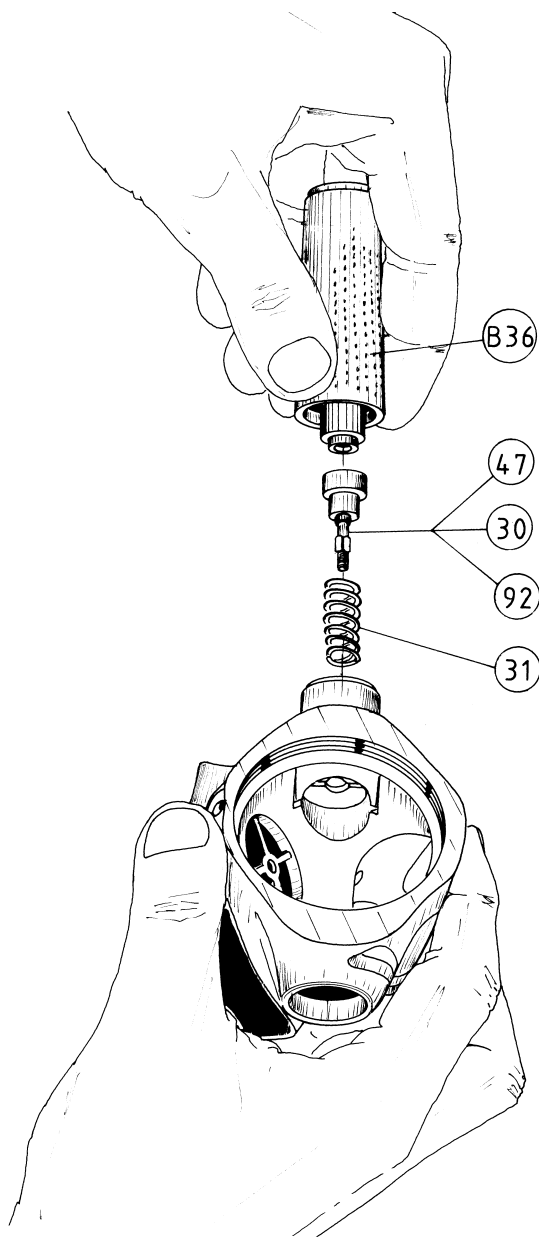

FIG. 6
- B.1 Position the spring (31) in the 2nd stage case assembly connector (Fig. 6).
- B.2 Insert the 2nd stage poppet assembly (30-47-92) in the previously inserted spring (31) (Fig. 6).